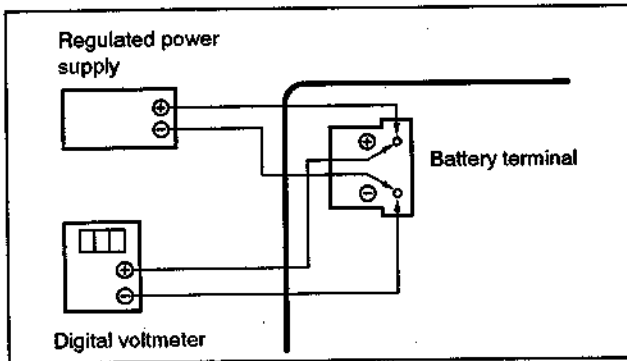

Fig. 8-4.
- 1) Connect the regulated power supply and digital voltmeter as shown in Fig. 8-4.